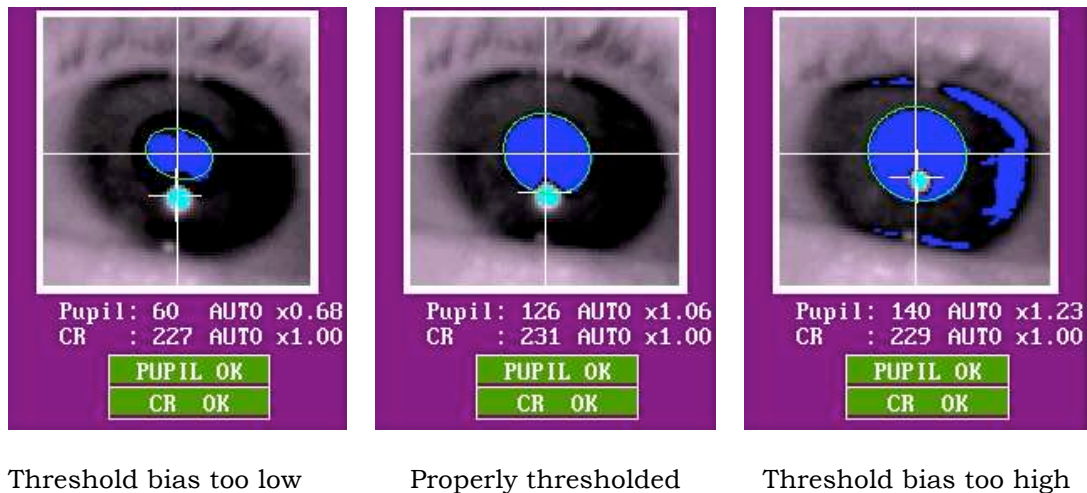

Figure 3-8: Pupil and CR Thresholds and Bias Values
- 12) In the zoomed camera image, the threshold values for pupil and corneal reflection are displayed under the camera image. Unlike other tracking modes of the EyeLink 1000 Plus eye tracker, these threshold values are automatically updated in the Remote Mode. The number beside the pupil threshold value is pupil bias – the extent to which the pupil threshold is modulated (see Figure 3-8). The user may adjust the bias using the pupil threshold adjustment buttons or with the UP and DOWN keys. Raising the bias increases pupil coverage (i.e., increasing the blue area) while lowering the bias decreases the pupil coverage (i.e., decreasing the blue area). Generally speaking, pupil biases should be in the range of 0.90 to 1.10. A value around 1.05 is recommended, though this will vary depending on the participant.